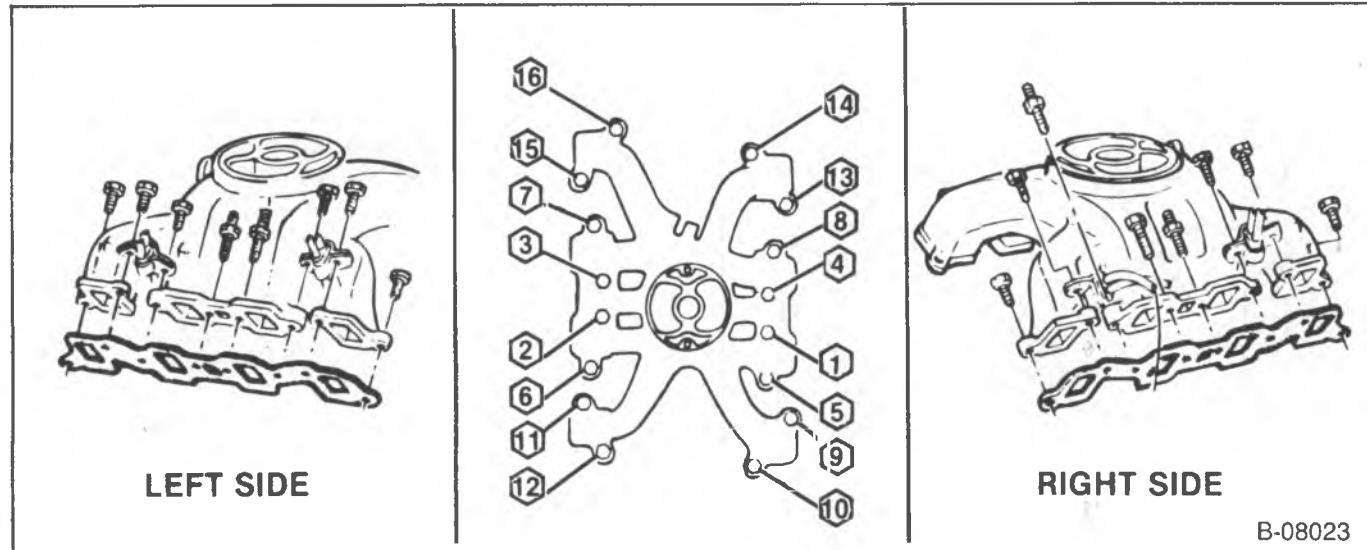

Figure 55—Intake Manifold Installation
Install or Connect (Figure 55)
- Intake manifold bolts to 42 N·m (31 ft. lbs.). Use the tightening sequence shown in figure 55.